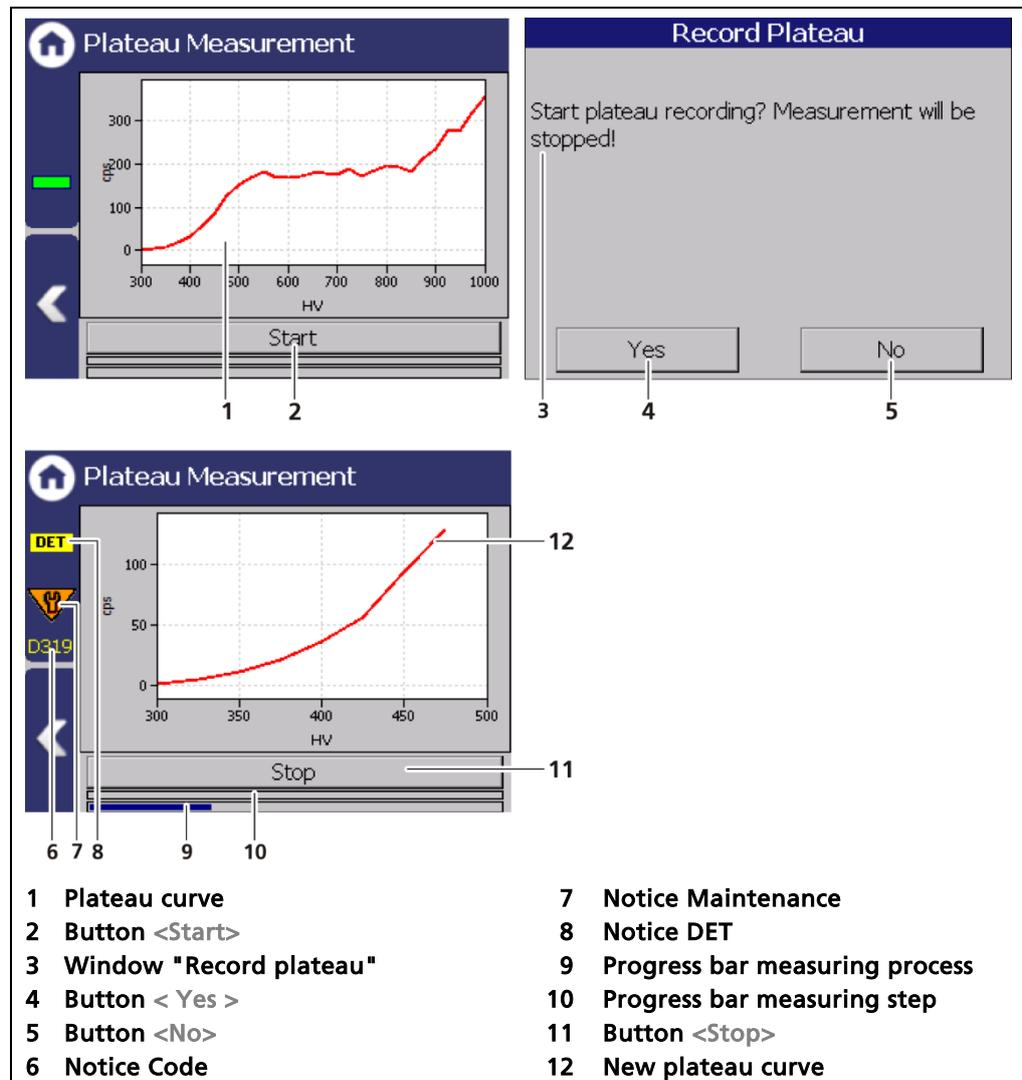

Fig. 65 Recording a plateau curve
1. Click on <Start> (Fig. 65, item 2) to carry out a plateau measurement.
- ▶ The confirmation message "Record plateau" (Fig. 65, item 3) opens.
2. Confirm with <Yes> (Fig. 65, item 4).
- ▶ The EVU switches to mode "DET" (Fig. 65, item 8) and the current measurement is stopped.
- ▶ The information (Fig. 65, item 6 - 8) from the plateau measurement are displayed in the status information. The LED Run flashes on the EVU during the plateau measurement. The LED "Warning" lights up at the same time.